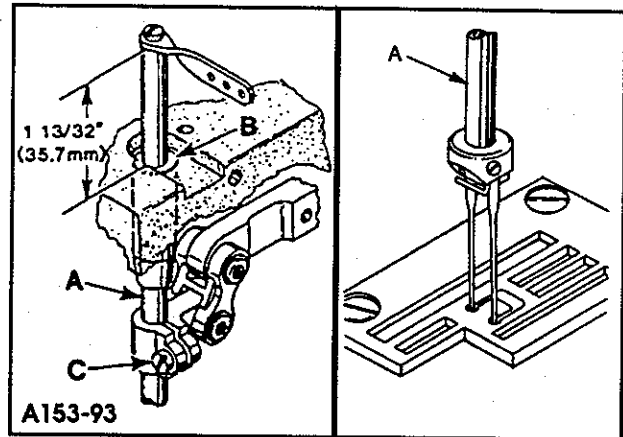
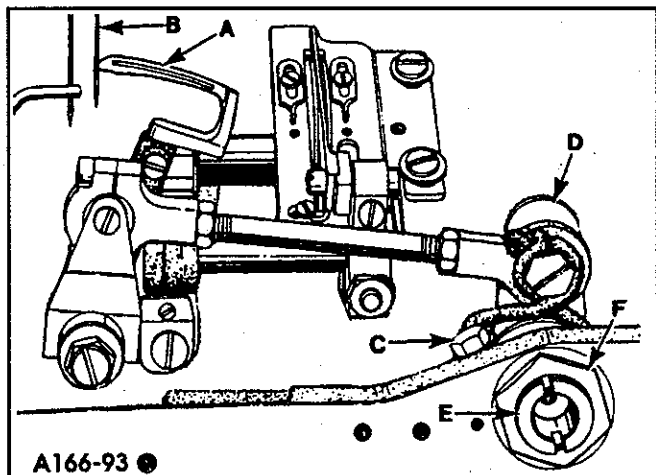
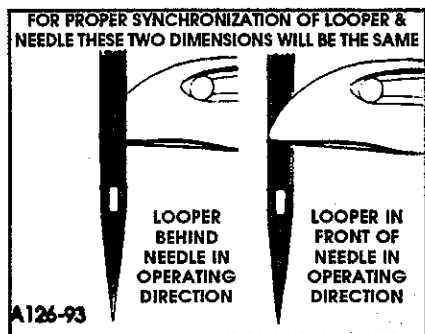

FIG. 4
FIG. 6
FIG. 7
Insert a new set of needles. With needle bar (A, Fig. 4) at top of its stroke, check to ensure an approximate setting of  $1 \frac{13}{32}$ " (35.7mm) from top of needle bar to top of needle bar bushing (B). Adjustment can be made by loosening clamp screw (C) and moving needle bar up or down, re-tighten screw (C) TEMPORARILY. Turn handwheel to bring needle bar down to ensure that needles center in needle holes of throat plate as shown in Fig. 4. Adjustment can be made by loosening screw (C) slightly, allowing needle bar to be turned as required, being careful not to change the temporary height setting. Tighten clamp screw (C). Re-check temporary height setting.
Insert looper into the looper rocker, pushing it all the way down and tighten screw against flat on shank of looper. Turn handwheel in the operating direction until the point of the looper (A, Fig. 6) moving to the left, is even with the left side of the right needle (B). Note the height of the eye of the needle with respect to the looper point. (See Fig. 7). Turn the handwheel in the reverse direction until the point of the looper again moving to the left, is even with the left side of right needle but in front of the needle (See Fig. 7). If the height of the eye of the needle with respect to the looper point are the same, looper and needle motions are synchronized - a variation of .005" (.127mm) is allowable.
Loosen screw (C, Fig. 6) in looper drive lever (D). A rod of .146-40 thd. or Union Special Screw No. 22870 A can be threaded into the looper drive lever rocker shaft through the center of thrust adjusting screw (E). Tap or pull slightly as required to position shaft for proper synchronization. Tighten screw (C) securely and remove rod or screw used to position shaft.
Turn handwheel in operating direction until point of looper is flush with the left side of left needle. Final setting is  $3/64$ " (1.2mm) between top of needle's eye and bottom surface of looper (See Fig. 7). If adjustment is required, loosen screw (C, Fig. 4) move needle bar CAREFULLY up or down, not to disturb alignment of same. Re-tighten screw (C) and check to ensure that the needles center in needle holes of throat plate.